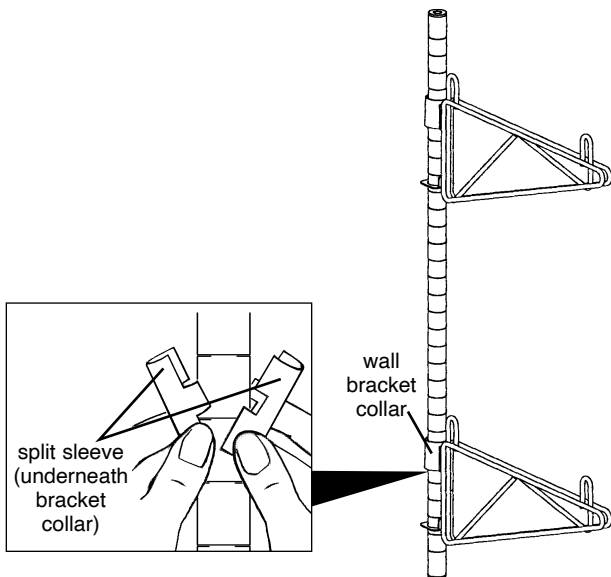

figure 4
- Slide the wall bracket collar (see figure 4) over top of post and down onto the plastic split sleeve. Repeat for each shelf bracket.
- Slide the end bracket collar (see *figure 4*) over top of post and down onto the plastic split sleeve. Repeat for each shelf bracket.